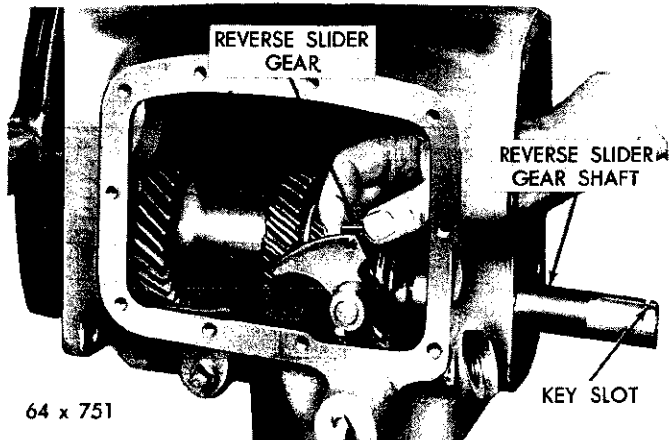
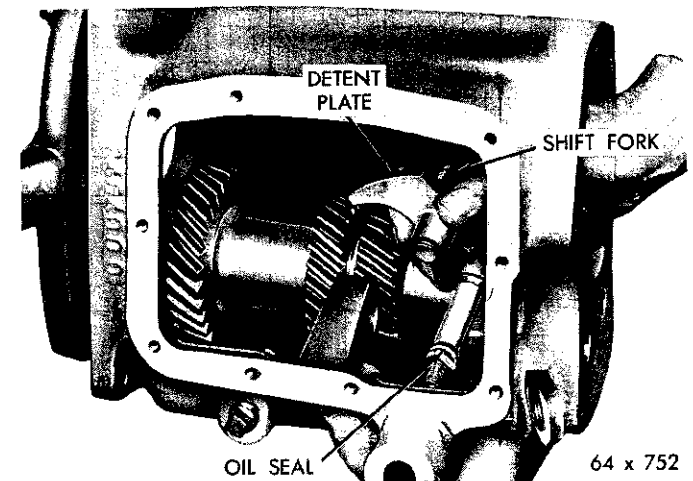
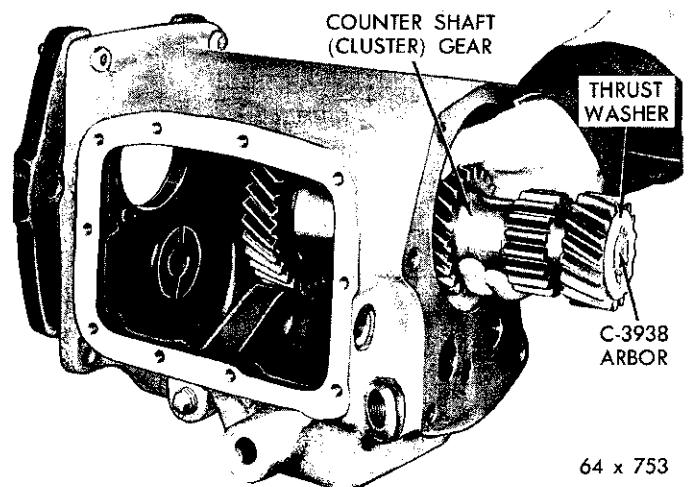

Fig. 17—Removing or Installing the Reverse Slider Gear
Fig. 18—Removing or Installing the Reverse Shift Fork and Lever
Fig. 19—Removing or Installing the Cluster Gear and Arbor
(9) Using a suitable drift, drive the reverse slider gear shaft (from front to rear) far enough out of the case to remove the reverse slider gear, as shown in Figure 17. Remove the woodruff key from the shaft. Remove the shaft from the case.
(11) Carefully push the reverse gearshift lever shaft into the case, and remove from the case, as shown in Figure 18. Lift out the detent ball from the bottom of the case. Remove the shift fork from the shaft and detent plate.
(12) Using countershaft arbor C-3938, and a plastic hammer, drive the countershaft out of the case, allowing the countershaft gear to be lowered to the bottom of the case. (This will permit the removal of the main drive pinion.)
(13) Using a pair of snap ring pliers, remove the main drive pinion bearing outer snap ring, using a plastic hammer, drive the main drive pinion into the case and remove.
(14) Using snap ring pliers, remove the main drive pinion bearing inner snap ring. Using an arbor press, remove the bearing from the main drive pinion.
(15) Remove the countershaft gear (cluster) from the bottom of the case, as shown in Figure 19.
(16) Remove the arbor and the 76 needle type bearings, thrust washers and spacer, from the center of the countershaft gear.
(4) Install the countershaft gear assembly into the case, as shown in Figure 19. Allow the gear assembly to rest on the bottom of the case. (Be sure the thrustwashers stay in position.)
(1) Install a new oil seal on the reverse gearshift lever shaft and coat with Lubriplate. Carefully install the lever shaft into the bore in the case and position (Fig. 18). Install the reverse fork in the lever.
(2) Install the reverse shift detent ball and spring. Install the reverse detent ball spring retainer gasket and retainer. Tighten securely.
(3) Position the reverse slider gearshaft in position in the end of the case, and drive in far enough to position the reverse slider gear on the protruding end of the shaft with the shift slot toward the rear (Fig. 17). At the same time, engage the slot with the reverse shift fork.